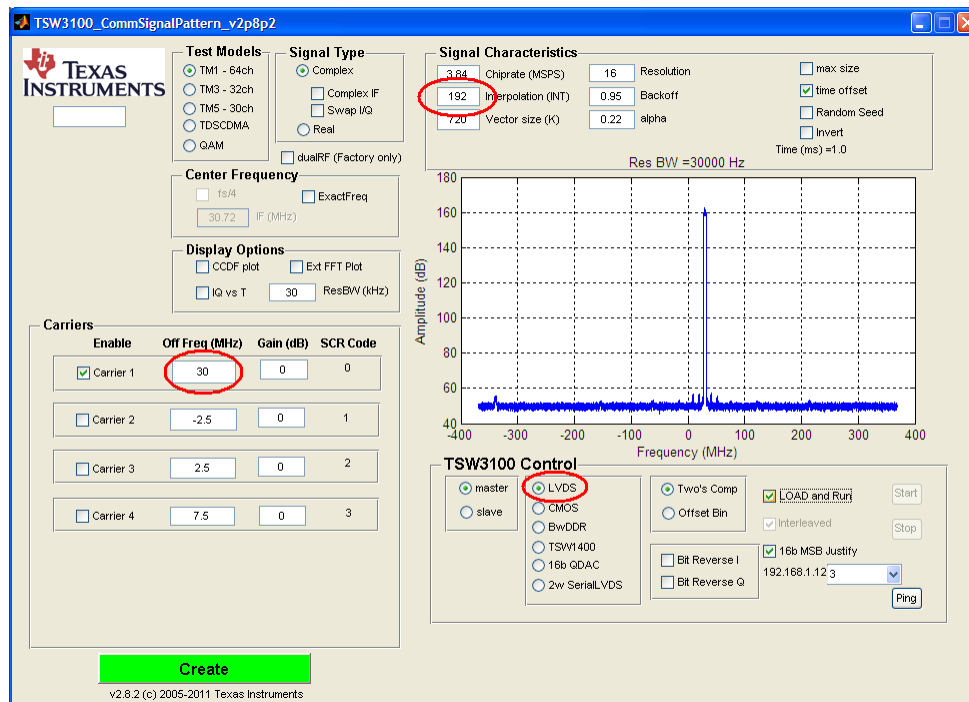

Figure 19. TSW3100 GUI for LVDS DDR Format
2. Configure the TSW3100 to output a 368.64 MSPS, LVDS DDR format, 30-MHz IF Single-Carrier WCDMA output. See Figure 19 for details.